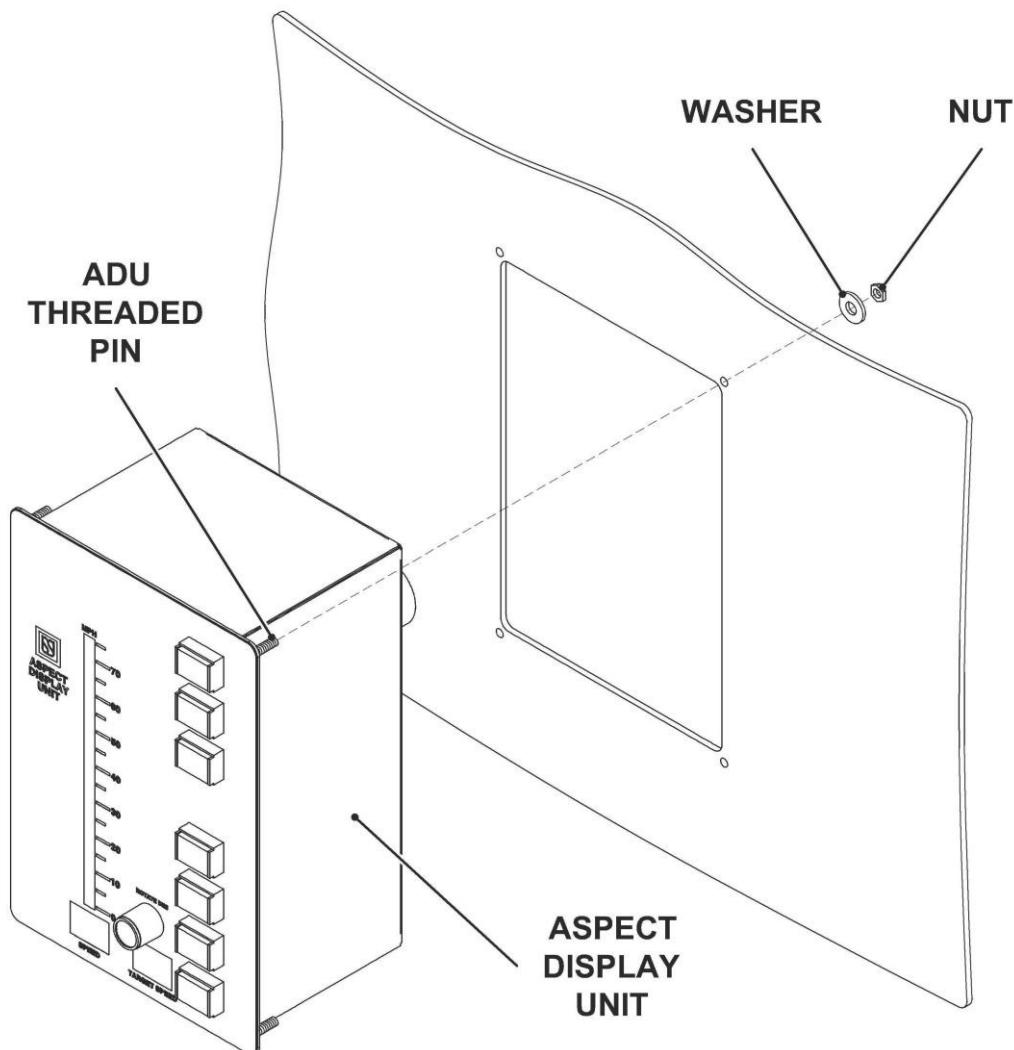

FIGURE 2 - ATP ASPECT DISPLAY UNIT REPLACEMENT
5. Remove the four Fixing Nuts and Washers from the ADU Threaded Pins (refer to Figure 2).
5. Install and tighten the four Fixing Nuts and Washers on the ADU Threaded Pins (refer to Figure 2).